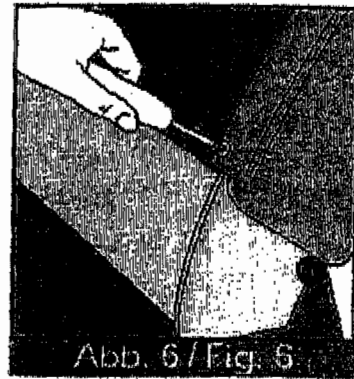

Abb. 6 / Fig. 6
- Unscrew the outer two screws. (see Fig. 6)